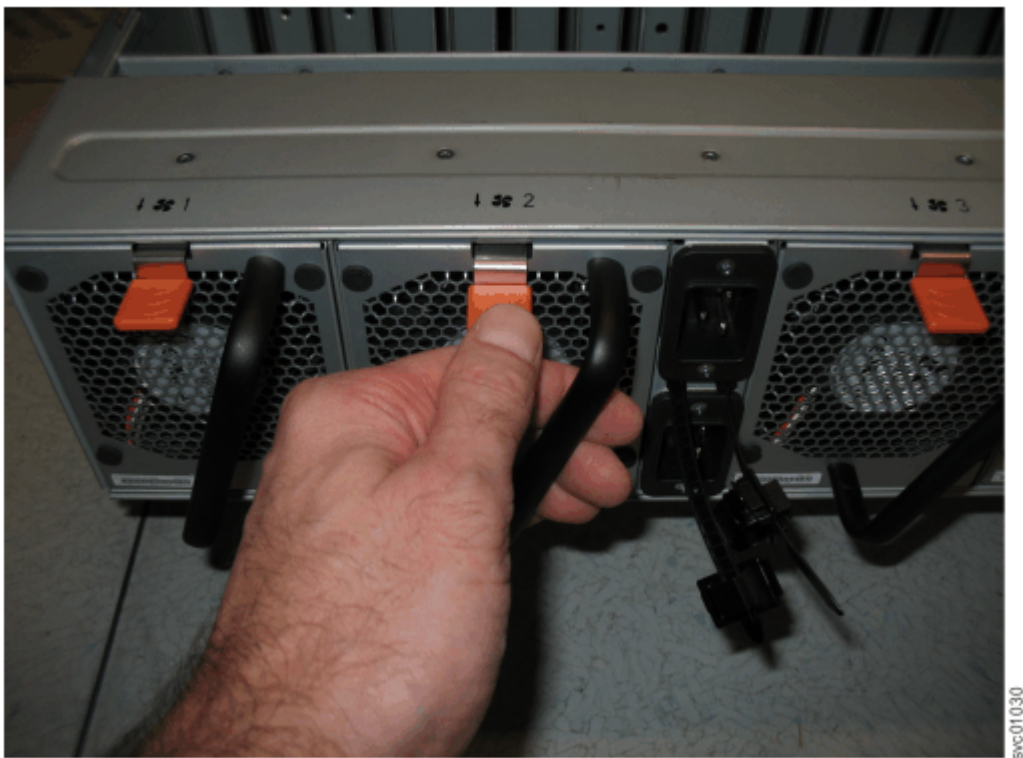

Figure 99. Fan module release tab
2. Press the release tab on the fan module, as Figure 99 on page 95 shows.